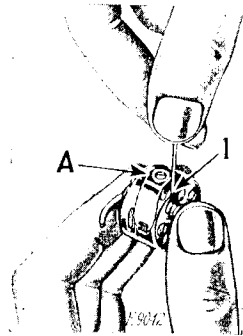
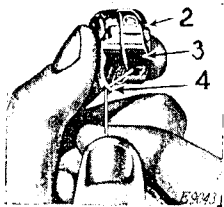

Fig. 8
Fig. 9
Then pull the thread into the slot (1, Fig. 8) in the edge of the bobbin case, draw the thread under the thread guide (2, Fig. 9) and under the tension spring (3, Fig. 9), thence through the hole (4, Fig. 9) in the position finger, as shown in Fig. 9.
**Note:** The eyelet (4, Fig. 9) is omitted from the position finger of the bobbin case used in Machine 71-47.
The tension on the bobbin thread is regulated by the screw A, Fig. 8) in the bobbin case tension spring. To increase the tension, turn the screw downwardly. To decrease the tension, turn the screw upwardly.